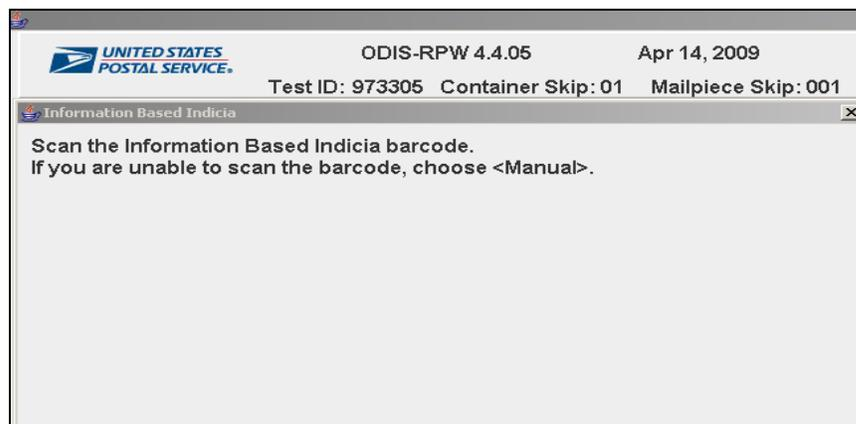

Figure 3.9.1-1a
Handbook F-75 Section 3.9.1, step 5 (page 3-73) is revised, after the bullet **Information Based Indicia (IBI)**, add the following paragraph and figure 3.9.1-1a:
When a parcel (including USPS flat-rate boxes, tubes and triangles, and flat-rate envelopes more than 3/4 inches thick) is selected as the mailpiece shape, a prompt to scan the IBI appears. Select option “9 – *Information Based Indicia*” from the *Indicia* screen (Figure 3.9.1-5). A validation check will let you know if the scan is successful.
- If the indicia is *Information Based Indicia (IBI)*, scan or manually enter the IBI barcode (Figure 3.9.1-1a).
- If indicia is *Information Based Indicia (IBI)*, scan or manually enter the IBI barcode (Figure 3.9.1-1a)